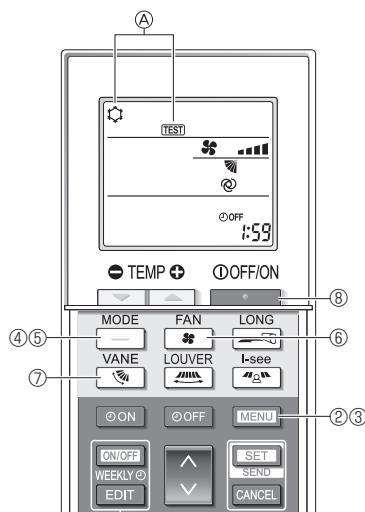

Fig. 7-5
- ① Turn on the power to the unit at least 12 hours before the test run.
- ② Press the **[MENU]** button for 5 seconds. (Fig. 7-5)
Ⓐ [TEST] and the current operation mode are displayed. (Fig. 7-5)